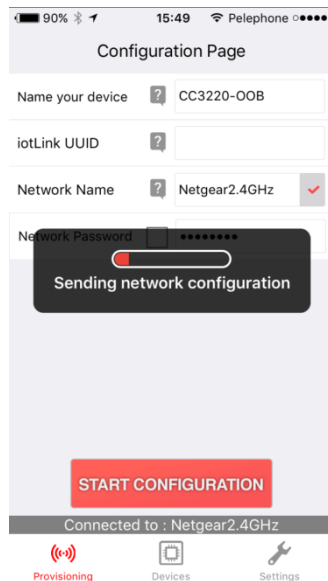
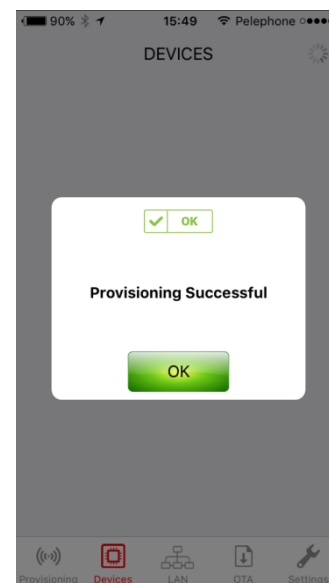
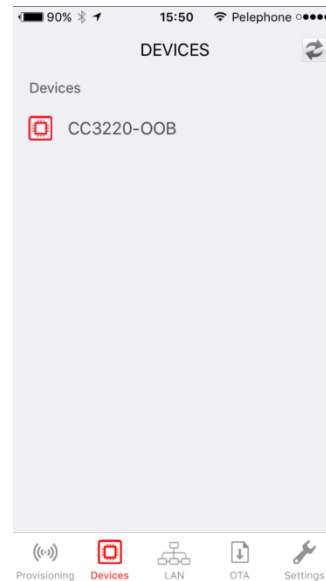

Figure 16. Wi-Fi Starter Provisioning Process (1/3)
Figure 17. Wi-Fi Starter Provisioning Process (2/3)
Figure 18. Wi-Fi Starter Provisioning Process (3/3)
3. Successful provisioning is indicated on the mobile application as shown in Figure 16, Figure 17, and Figure 18. On the LaunchPad, the red Led (D7) turns solid on.